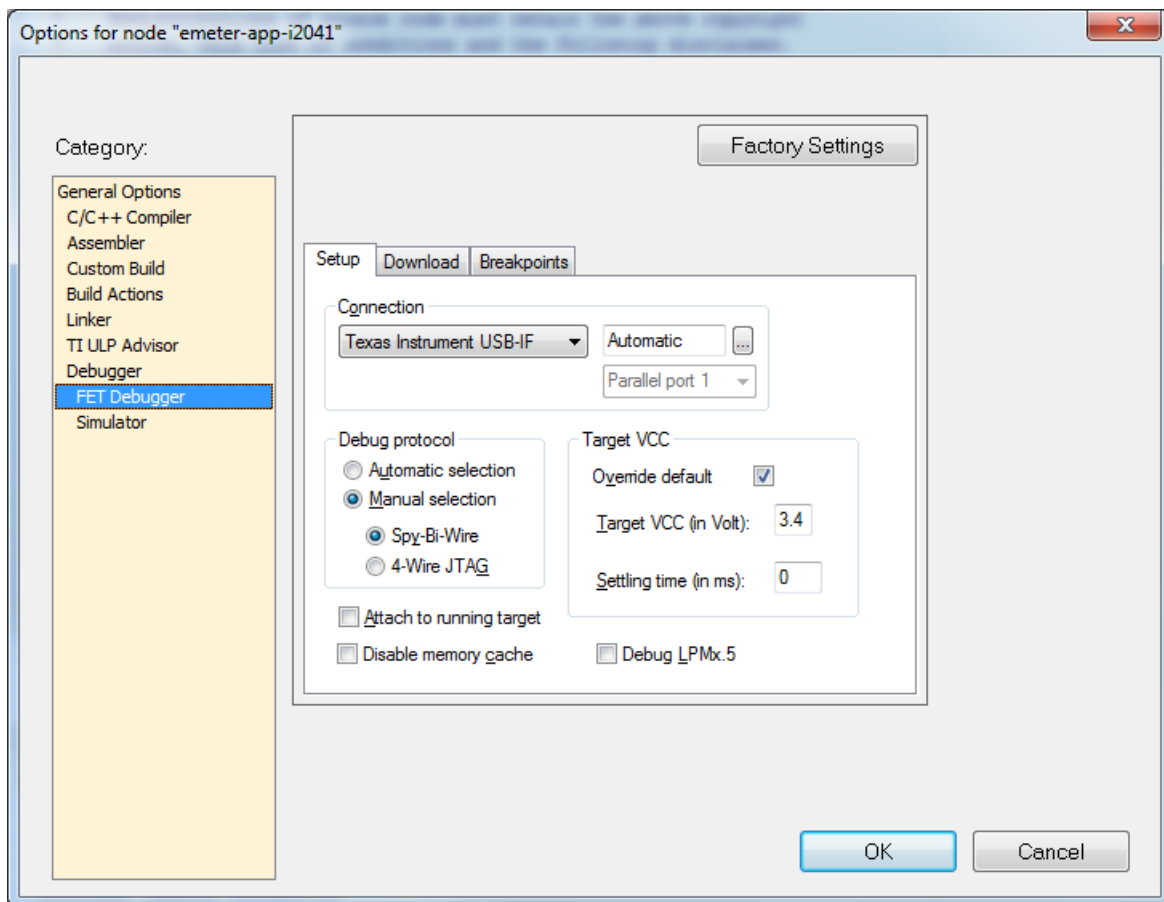

Figure A-1. Project Options
2. Check project options by right clicking project name and select [Options...] from the pop-up menu (see Figure A-1)